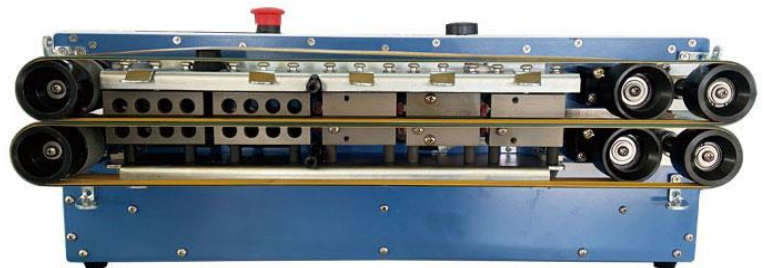

Fig. 7-1
1. Open the covers. Unscrew the Philips head screws on the top cover and bottom cover. (Fig. 7-1)